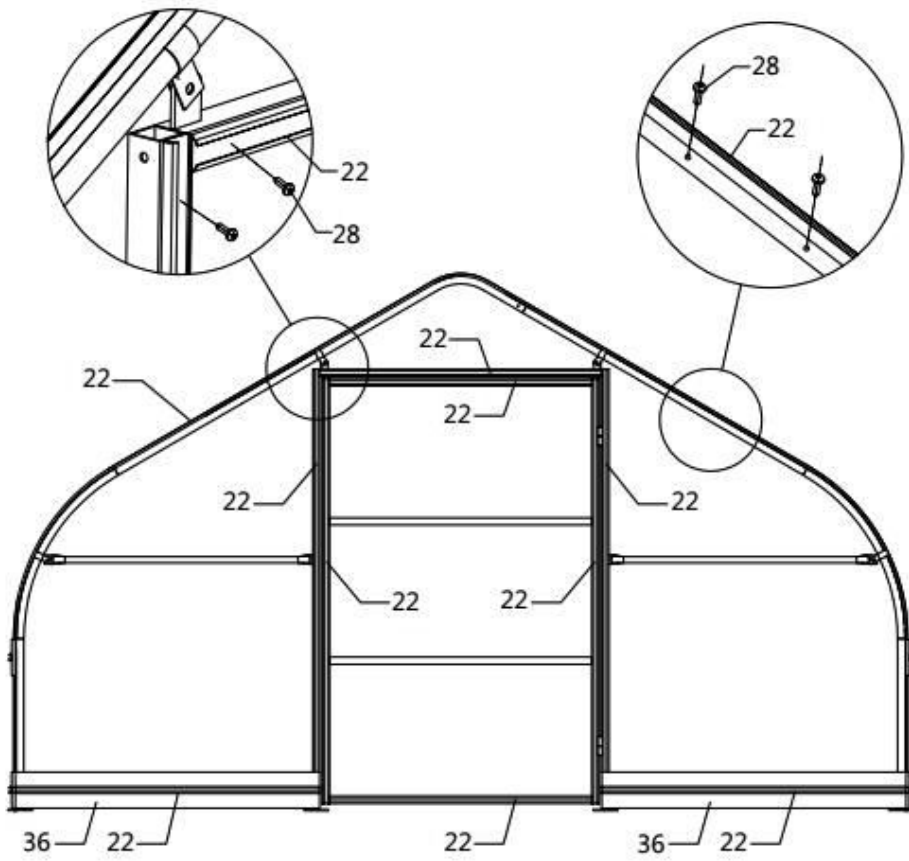

Figure 8
**Step 5 : Installing boards (#36) and reed groove (#22) (refer to figure 8, figure 9)**